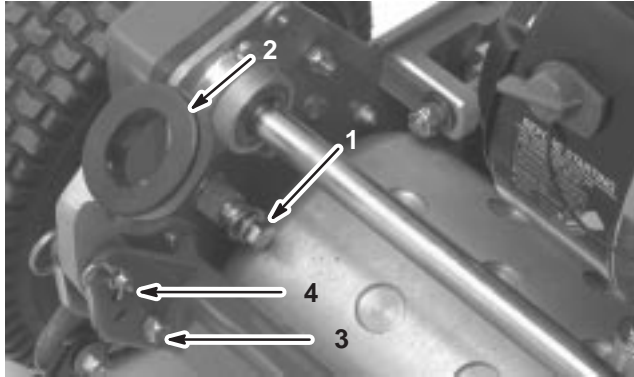

Figure 1
2. Remove the capscrew, washer, and lockwasher from the mounting pin on each side of the mower, as shown in Fig. 1.
3. Remove the capscrews and locknuts securing the bottom of the handle arms to each side of the mower, as shown in Figure 1.
4. Remove the hairpin cotters and ring pins securing the handle arms to the rear of the frame (Fig. 1).
5. Insert the handle ends thru the holes in the handle arms and align the holes with the mounting pins (Fig. 1).
1. Remove the hairpin cotters from the ring pins on each side of the mower (Fig. 1).
2. While supporting the handle, remove the ring pins from each side and raise or lower the handle to the desired operating position. (Fig. 1).